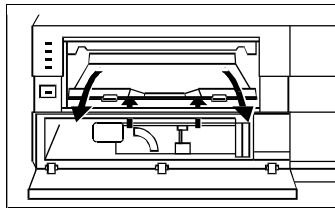

Figure 6-38. Removing the Bottom Plate
3. Lift the bottom plate and remove it (Figure 6-38).